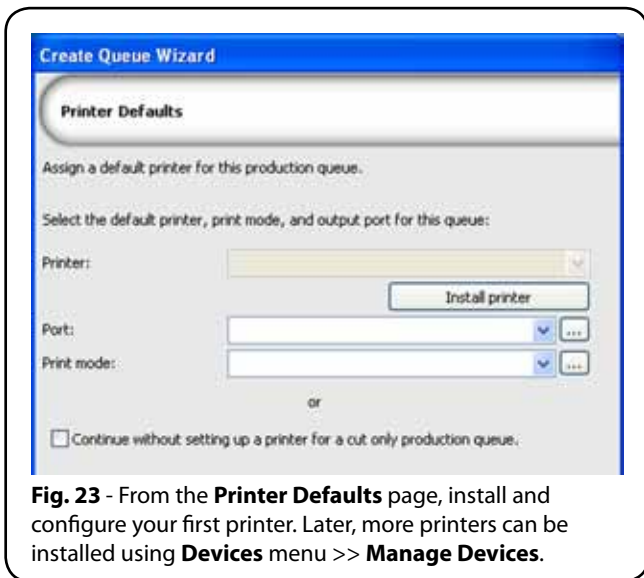

Fig. 23 - From the **Printer Defaults** page, install and configure your first printer. Later, more printers can be installed using **Devices** menu >> **Manage Devices**.
5. From the **Printer Defaults** page (Fig. 23):